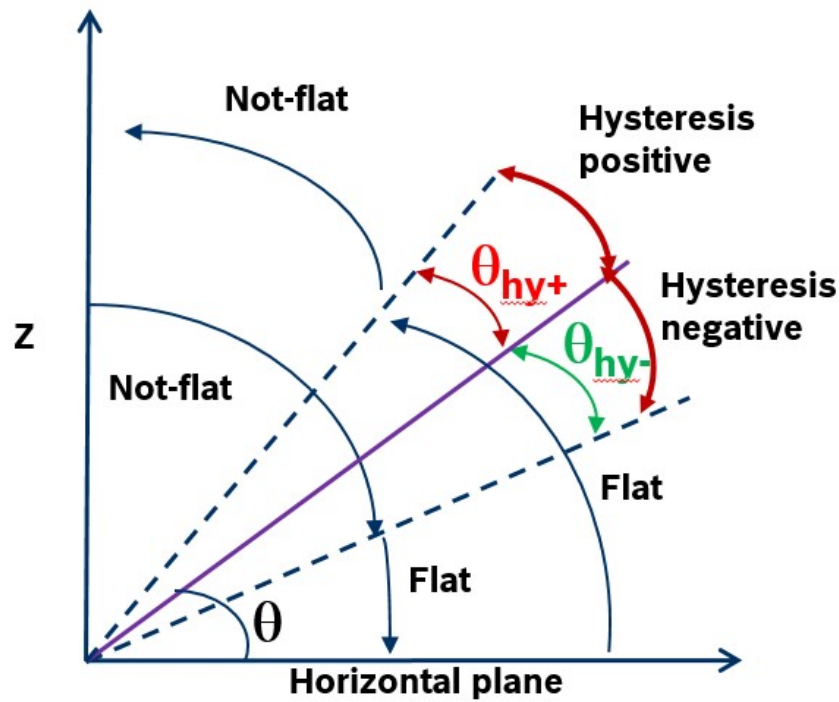

Figure 13: Hysteresis and  $\theta$  angle
**Hysteresis** The threshold angle  $\Theta$  for Flat detection is associated to a hysteresis to ensure a true flat detection and avoid the oscillation the feature status. The hysteresis value EXT.FLAT\_2.hysteresis is used according to Fig. 13. The hysteresis can be configured with values between 0 and 63 that correspond to a hysteresis angle between 0 and 5 degrees. In the following graphs of Fig. 14 and Fig. 15, four typical cases are depicted for the case of the hysteresis configured to 0, 1, 2.5 and 5 degrees. The effect of the hysteresis is symmetric and used for both cases of entering